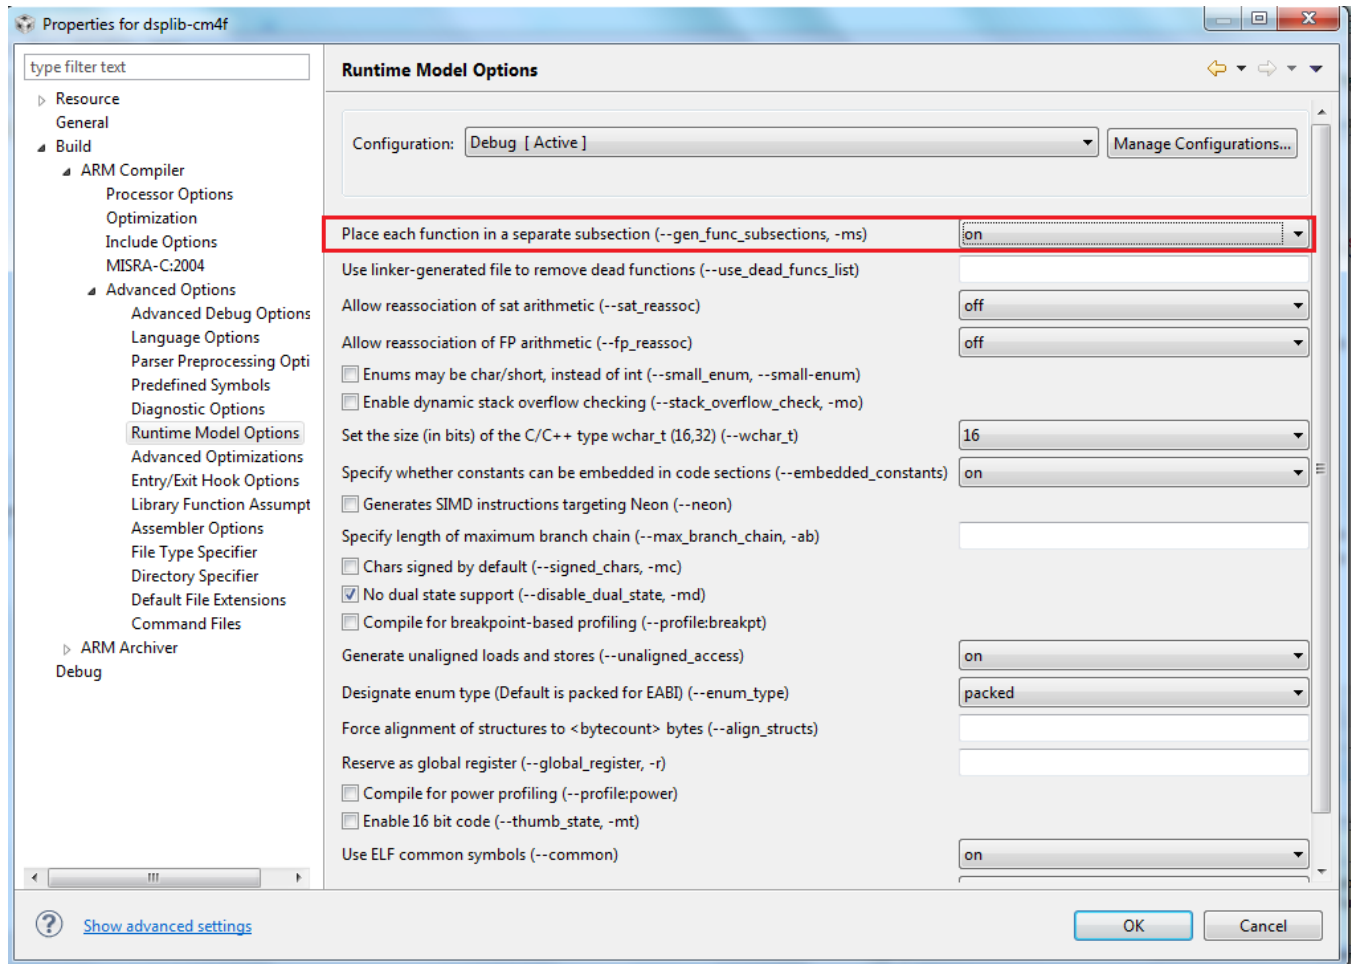

Figure 11. The Proper Runtime Model Options for Compiling the DSP_Lib Source Code
10. Select the *on* option from the *Place each function in a separate subsection (--gen_func_subsections, -ms)* drop-down menu in the Runtime Model Options panel (see Figure 11).